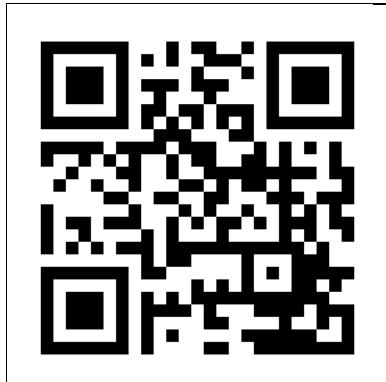

Figure 18
1. Open the Eurom Smart App manual with the QR code (Figure 18) or go to www.eurom.nl/nl/manuals.